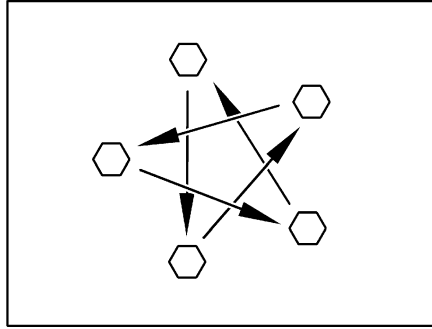

Fig. 160 Tighten the wheel nuts or wheel bolts cross-wise
- Check regularly that the wheel nuts or wheel bolts are firmly seated. Re-tighten the wheel bolts of a changed wheel cross-wise after 50 km (30 miles) (Fig. 160).
- ▷ Tighten the wheel nuts or wheel bolts cross-wise (Fig. 160).